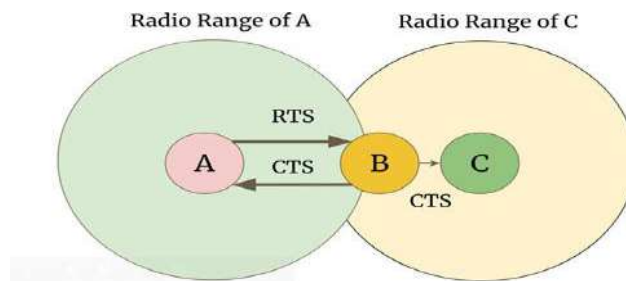

Figure 1.8 Solution for Hidden Terminal Problem
- Solution for this problem (figure 1.8), include medium access collision avoidance (MACA)